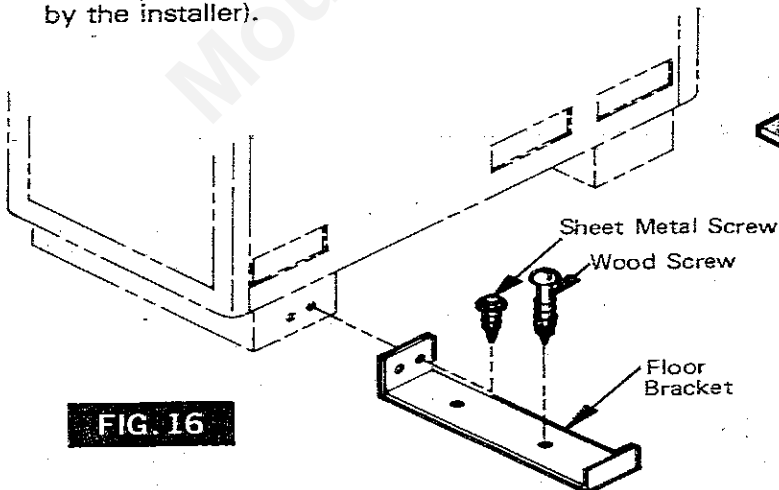

FIG. 16
2. Attach brackets to the heater using the sheet metal screws provided. Then attach the brackets to the floor using the wood screws provided. See Fig. 16 and 17.